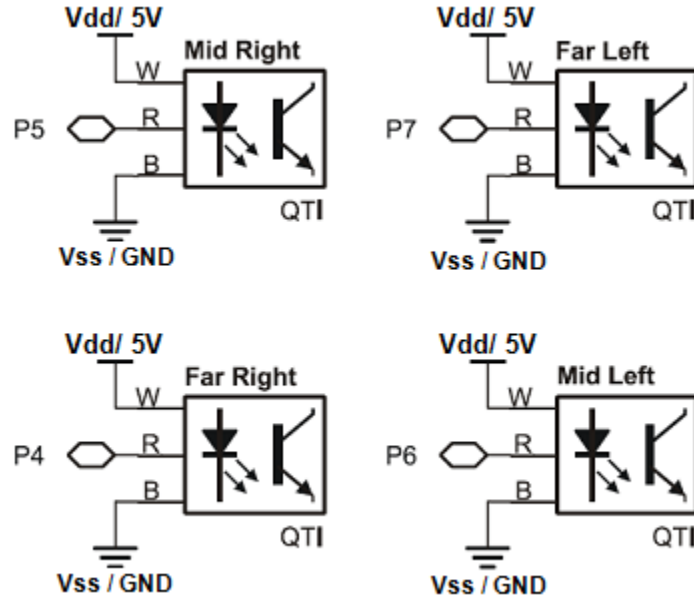
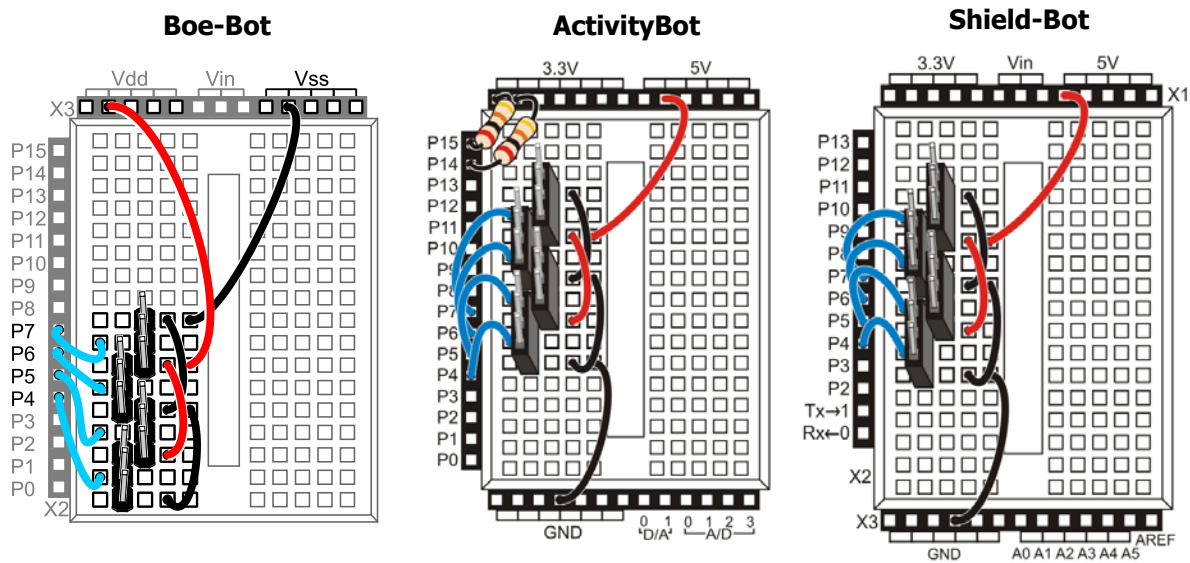
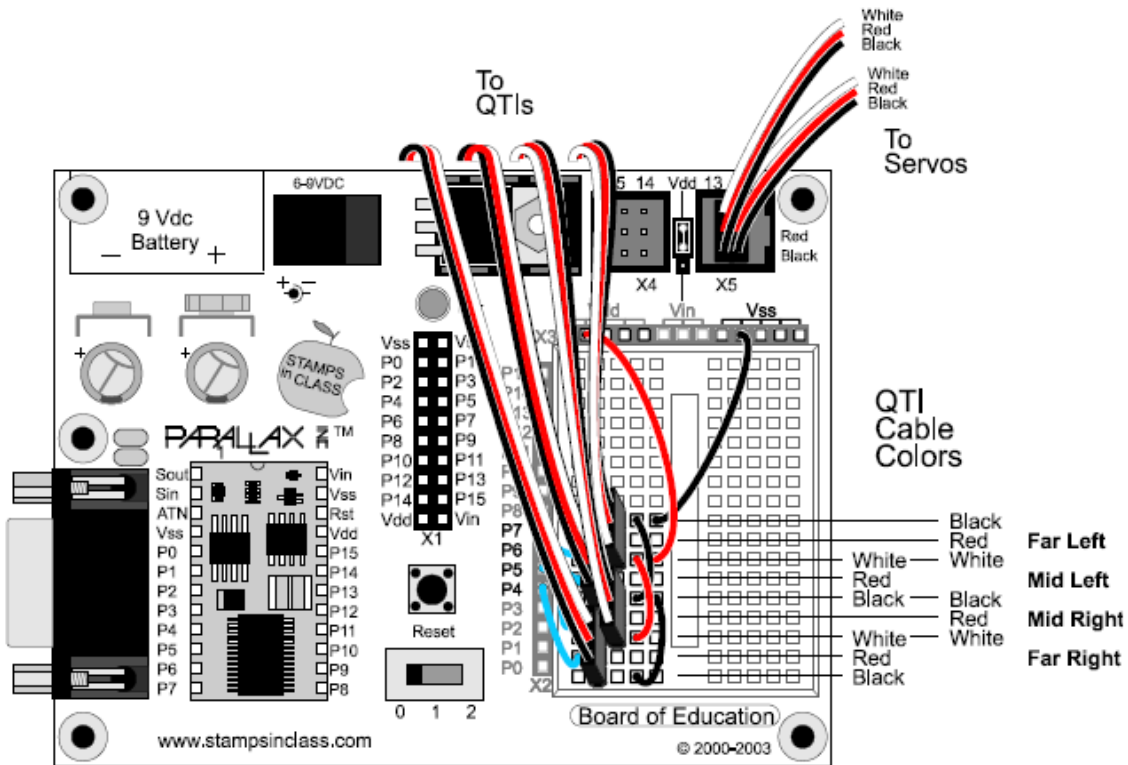

Figure 2 – Schematic
Figure 3 – Wiring Diagrams
Figure 4 – Servo Extension Cable Connections
- √ Use the schematic (Figure 2) and the wiring diagrams (Figure 3) on the next page to build the circuits for the three-pin headers. Be sure to use the correct breadboard setup for your specific robot (Boe-Bot, ActivityBot, or Arduino Shield-Bot). Although there are many ways this circuit can be built, these setups are simple and thrifty with breadboard real-estate. If you are using a Boe-Bot with a HomeWork Board (instead of a Board of Education), it won't interfere with the servo connections.
Use the Figure 4 to connect the servo extension cables to the male-male headers that are plugged into the breadboard. The other end of each cable is plugged into a QTI. Be careful when you make these connections, and pay close attention to the wire colors listed in the figure. Notice that the far left and mid left cables have white wires that plug onto header pins in the same breadboard row. The same applies to the mid right and far right QTI cables. Instead of common white wires, the mid left and mid right QTI cables share a pair of black wires.
Use Figure 4 for Boe-Bot, ActivityBot, or Shield-Bot robots. If you set up your robot's breadboard according to Figure 2, the servo extension cables will always be connected in the configuration shown below, regardless of which robot you are using.